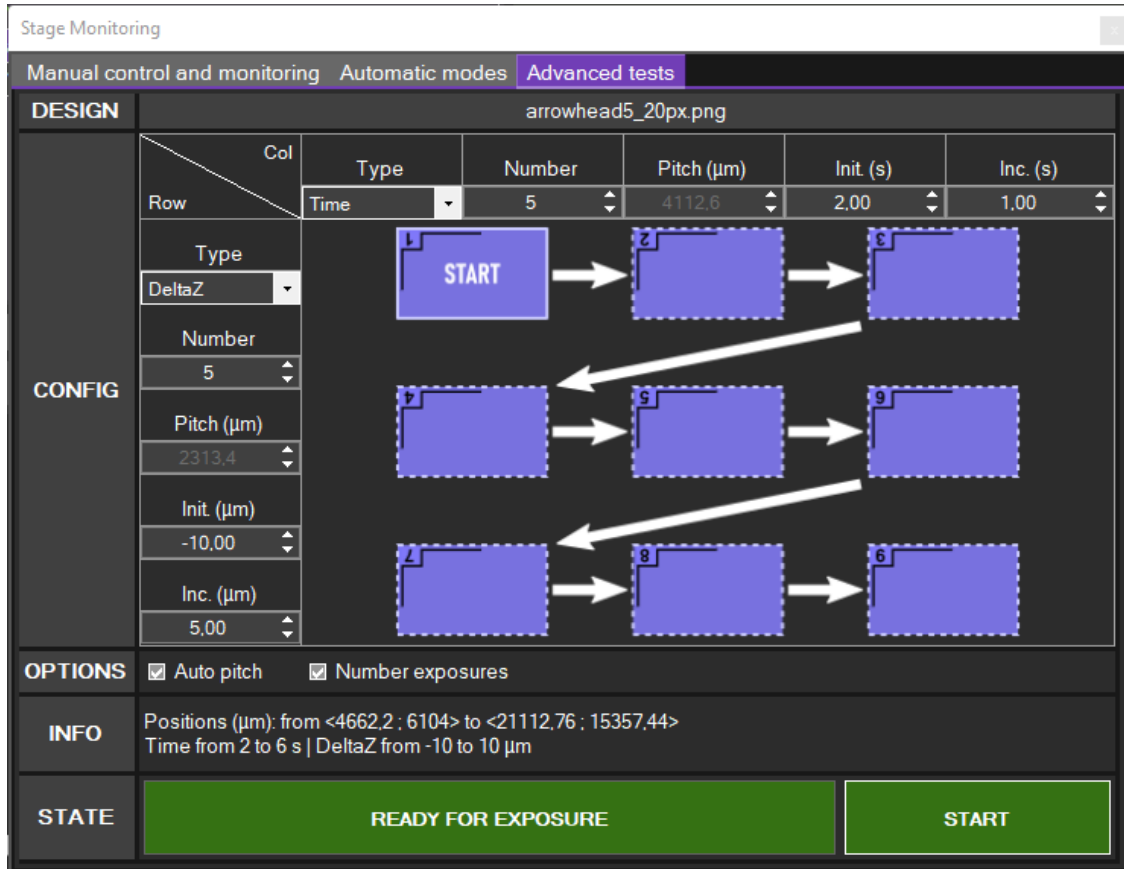

Figure 46 - Advanced tests tab: example of configuration
As an extension of the STEP & REPEAT option, *Phaos* offers an “Advanced tests” tab in the Stage Monitoring window (Figure 46) to automatically perform a series of tests with various parameter changes.
- Ranges of positioning and parameters in the INFO panel. If the lithography is well setup, the STATE panel may display "READY FOR EXPOSURE" as in Figure 46. In that case, click on the **START** button to run the test.